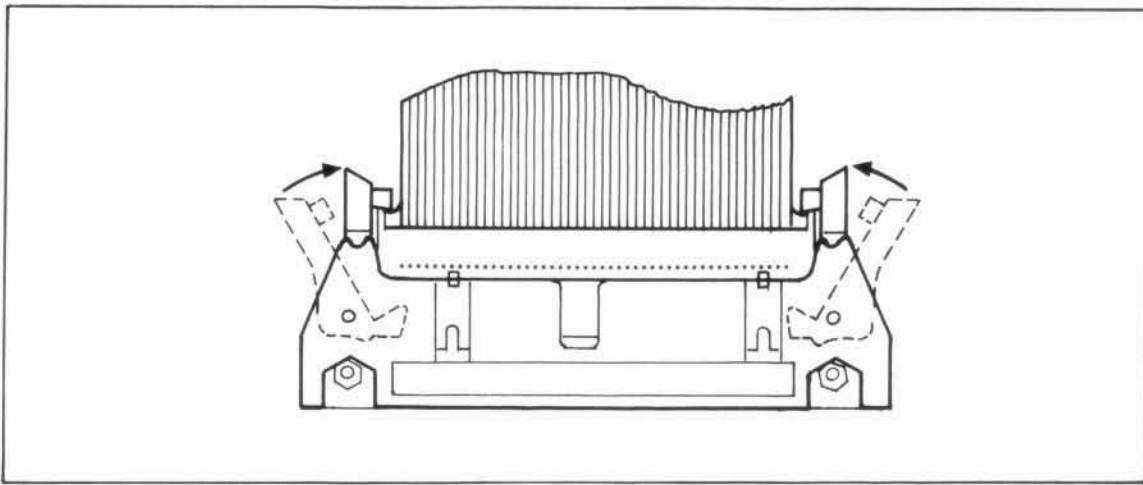

Figure 6-6. HP 5507A Intercard Connector
8. Non-Compensation Board Only. Install any required ribbon cables to adjacent boards. Make sure connectors are fully mated and retaining snaps fit over top of connector (Figure 6-6).